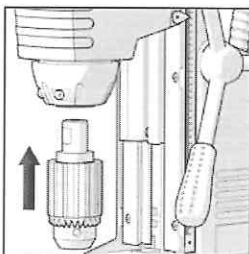

Fig. 11
- Align the two flats on the chuck adaptor with one of the screws in the spindle. (**Fig.11**)
(6) MAINTENANCE